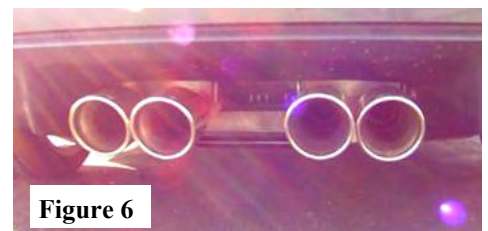

Figure 6
3. Align tips and tighten hardware. Loosen clamps to rotate or slide pipe for better alignment. (See Fig. 6)